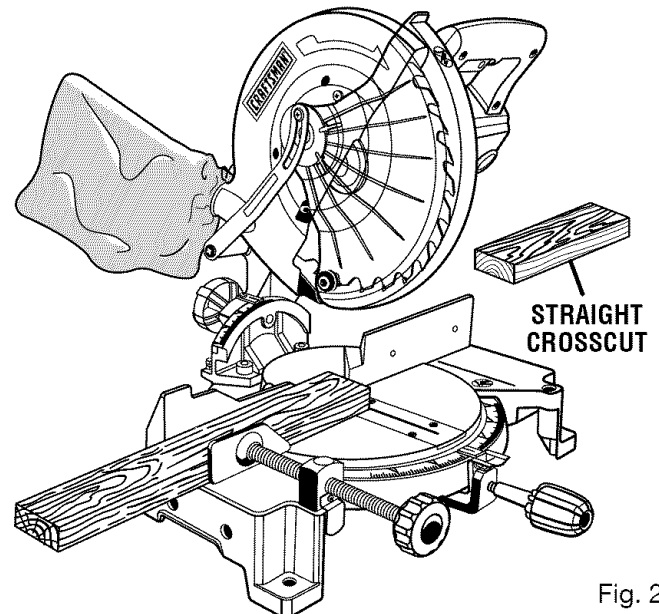

Fig. 26
See Figure 26.
- Grasp the stock firmly with one hand and secure it against the fence or use the optional work clamp or a C-clamp to secure the workpiece. See Figure 26.
- Slowly lower the blade into and through the workpiece. See Figure 26.